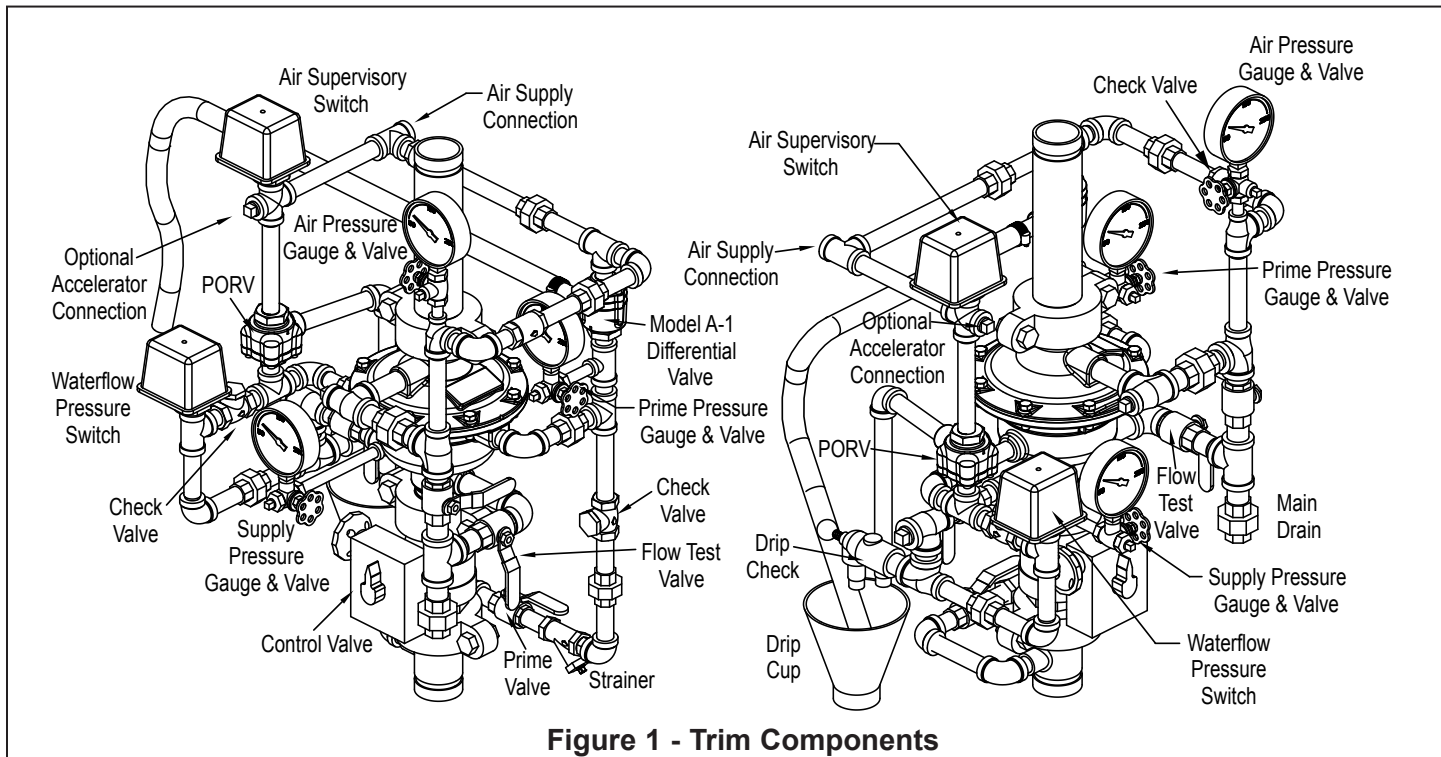

Figure 1 - Trim Components
- The Viking Model E-1 Accelerator should be installed at the location indicated in Figure 1 when required by the installation standard or local Authority Having Jurisdiction.